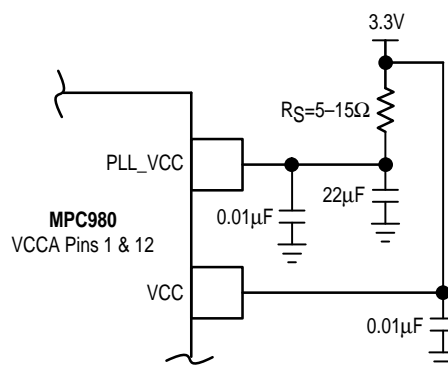

Figure 3. Power Supply Filter
1. The filter recommended for the analog power pins is found in Figure 3 in the Applications Information section on page 5.
Figure 3 illustrates a typical power supply filter scheme. The MPC980 is most susceptible to noise with spectral content in the 1KHz to 1MHz range. Therefore the filter should be designed to target this range. The key parameter that needs to be met in the final filter design is the DC voltage drop that will be seen between the VCC supply and the VCCA pin of the MPC980. From the data sheet the I_{VCCA} current (the current sourced per VCCA pin) is typically 15mA (20mA maximum), assuming that a minimum of 3.0V must be maintained on the VCCA pin very little DC voltage drop can be tolerated when a 3.3V VCC supply is used. The resistor shown in Figure 3 must have a resistance of 10–15 Ω to meet the voltage drop criteria. The RC filter pictured will provide a broadband filter with approximately 100:1 attenuation for